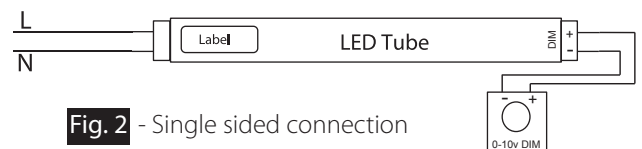

Fig. 2 - Single sided connection
7. LED T8 lamps are designed for single sided connections only (**Fig. 2**). To install, please wire non-shunted sockets by connecting one wire from the lamp holder to branch circuit L (LINE) and the other wire at the opposite end to the branch circuit N (NEUTRAL). Do not connect opposite side to power. Use appropriate wires for connection.